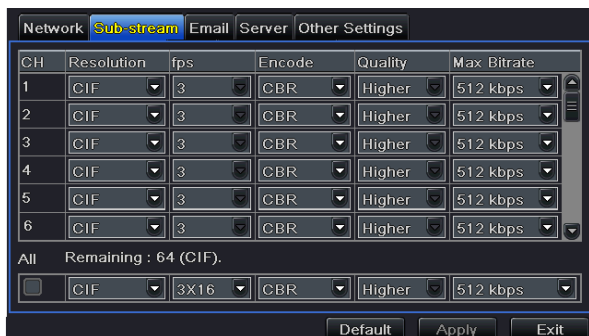

Fig 4-30 Network Configuration-Sub Stream
Step 1: Enter into Menu→Setup→Network →Sub-stream tab. Refer to Fig 4-30: